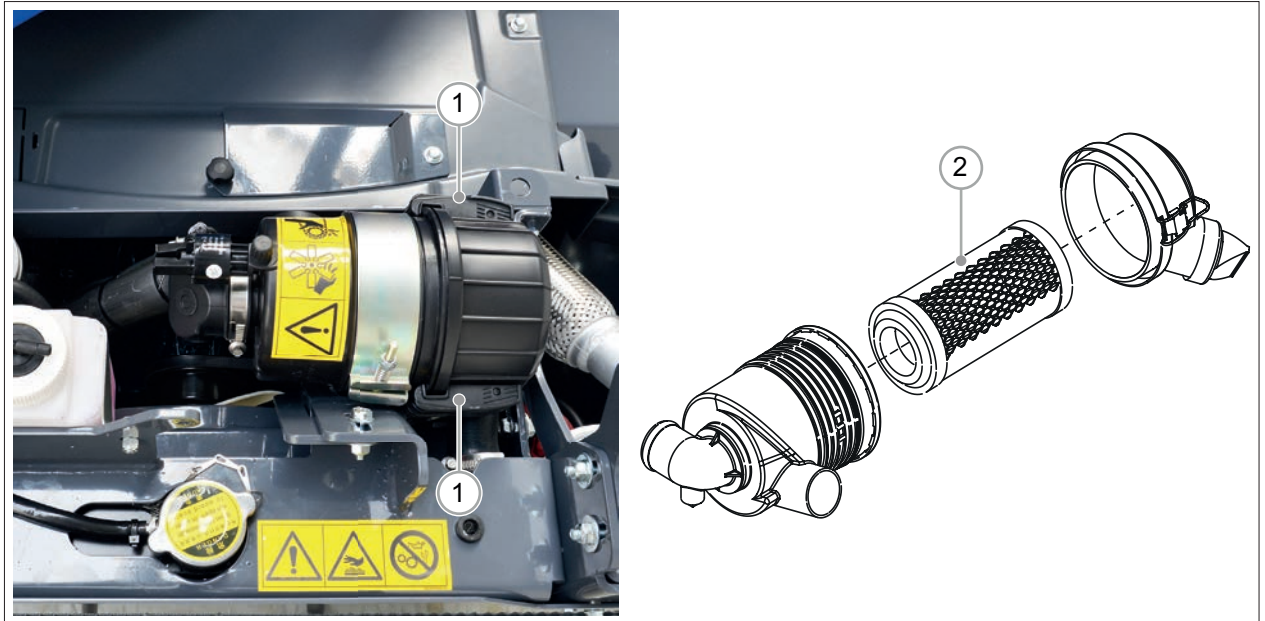

FIG. 52
- 4) Unhook the retaining clips and remove the end cap (FIG. 52 - Ref. 1).
- 5) Check the air cleaner element (FIG. 52 - Ref. 2), if cleaning is needed do it with low pressure air jets or replace with new genuine spare part.